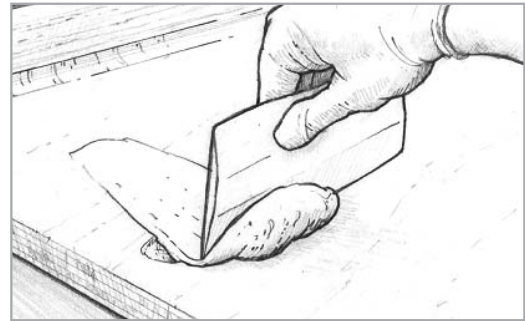

Figure 8-15 Trowel the thickened epoxy fairing compound into the voids and depressions with a plastic spreader.
4. Trowel on the thickened epoxy mixture with a plastic spreader, working it into all voids and depressions. Smooth the mixture to the desired shape, leaving the mixture slightly higher than the surrounding area (*Figure 8-15*). Remove any excess thickened epoxy before it cures. If the voids you are filling are over ½" deep, apply the mixture in several applications or use 206 Slow Hardener or 209 Extra Slow Hardener, depending on ambient temperature.